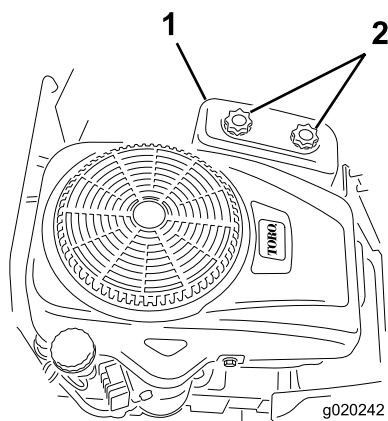

Figure 30
4. Remove the air-cleaner cover by unscrewing the 2 knobs (Figure 30).
3. Install the air-cleaner cover, and tighten the 2 knobs (Figure 30).